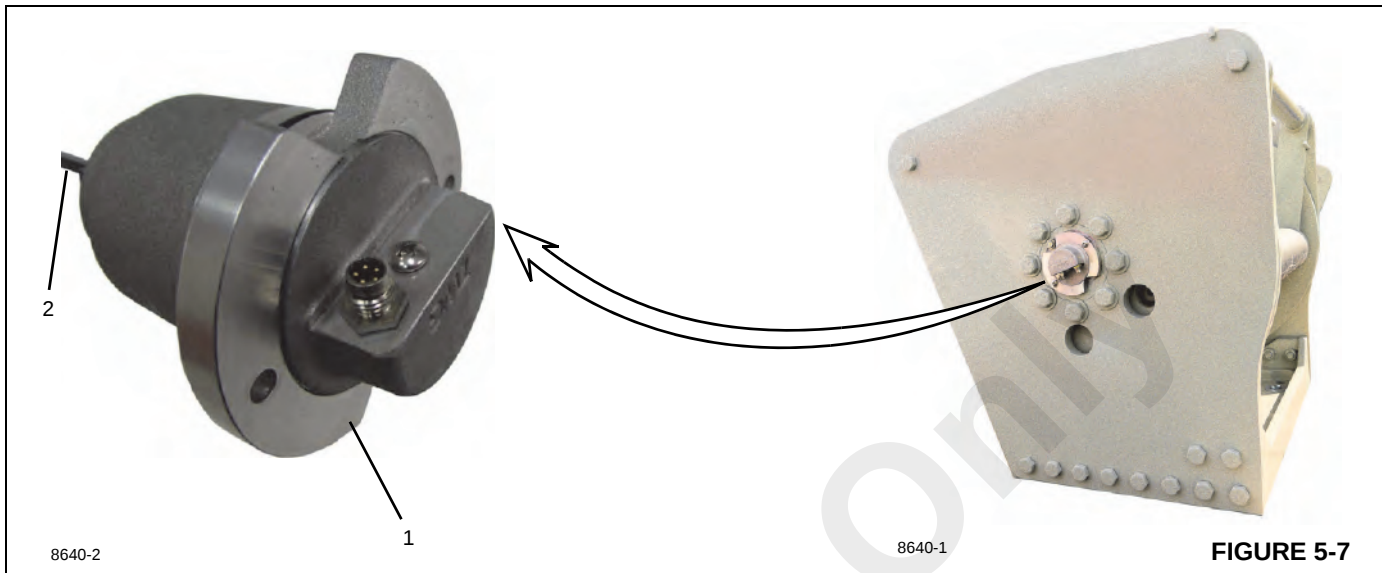

FIGURE 5-7
1. Insert the DRI into the drum. Rotate the DRI (1, Figure 5-7) so that the DRI shaft (2) engages the drive inside the drum.